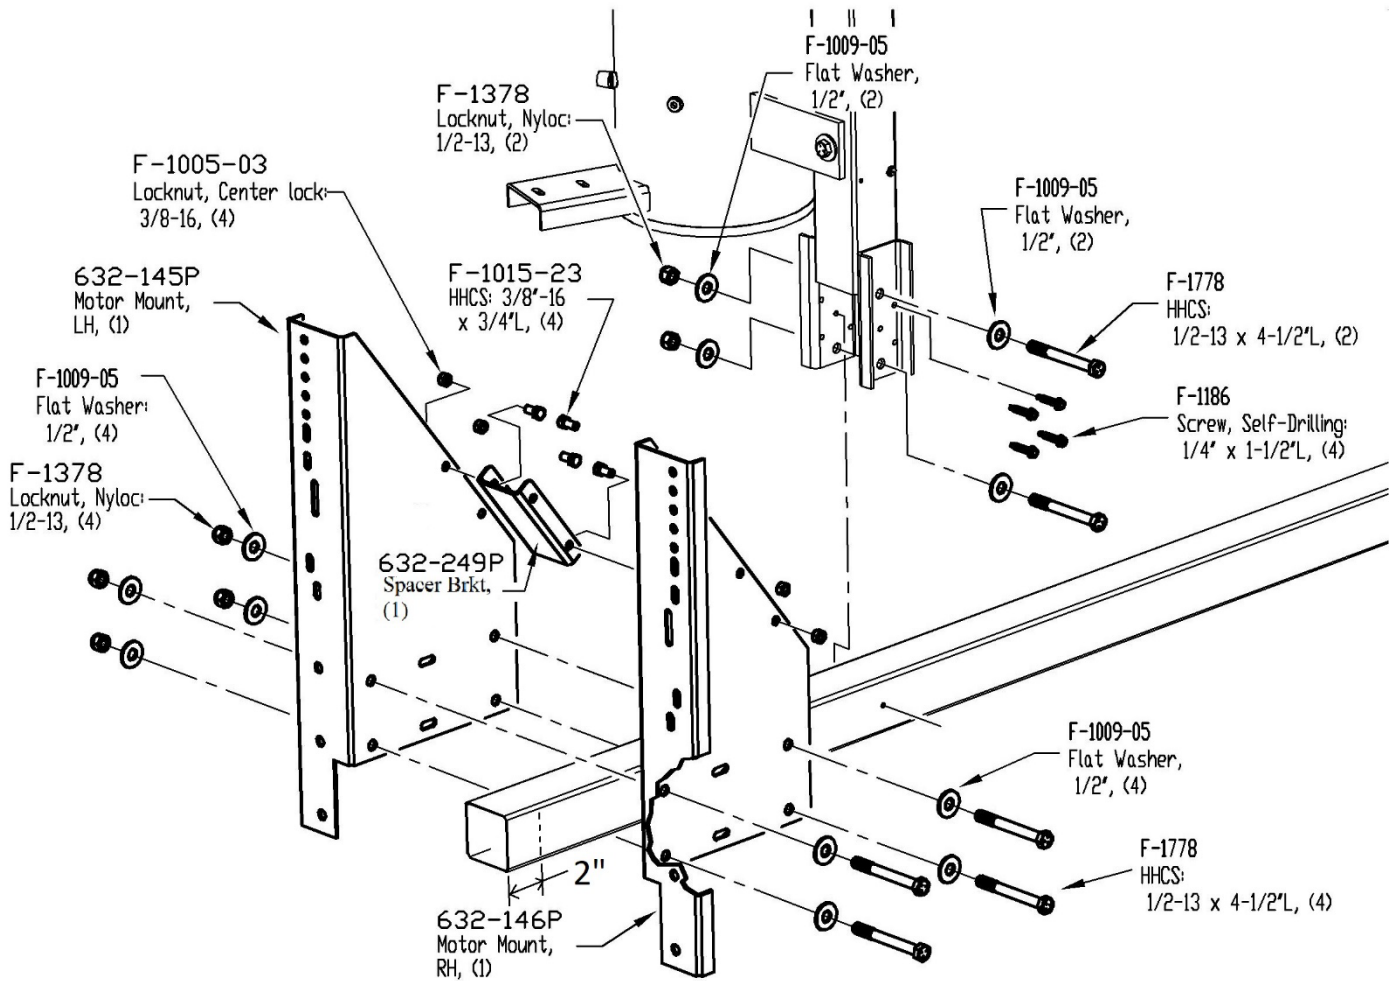

Fig 9.12
**8j. Install Drill Screws:** Install 4 Drill Screws at the Mast Weldment to hold Leveling Arms' Position. (See Fig 9.12, p.32), Then tighten bolts clamping the Arm Tube, being careful not to crush the tube.
### 9a. Install RH and LH Motor Mounts: See Fig 9.12